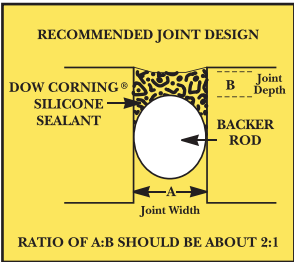

Figure 1.
4. Avoid 3 sided adhesion: Apply backer rod or bond breaker tape in the base of the joint to ensure the sealant is only bonded to the sides of the joint and is free to move to its full capacity under joint movement (Refer Figure 1).